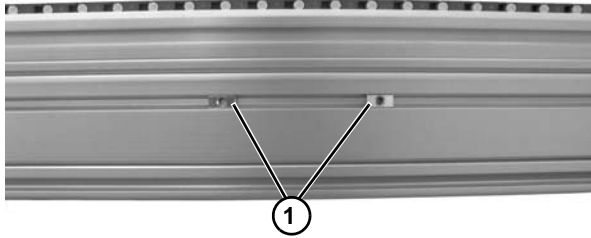

Figure 20
2. Install T-bars (Figure 20, item 1) into T-slots of conveyor.